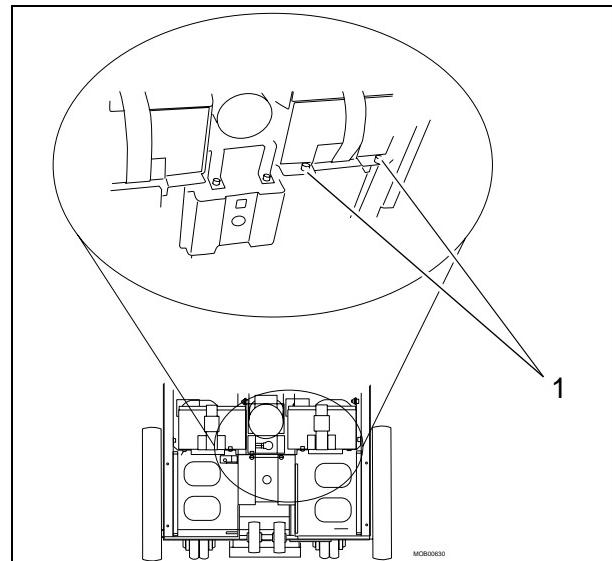

Fig. 12
- Remove two screws (pos. 1 / Fig. 12) from the battery bank you want to replace.